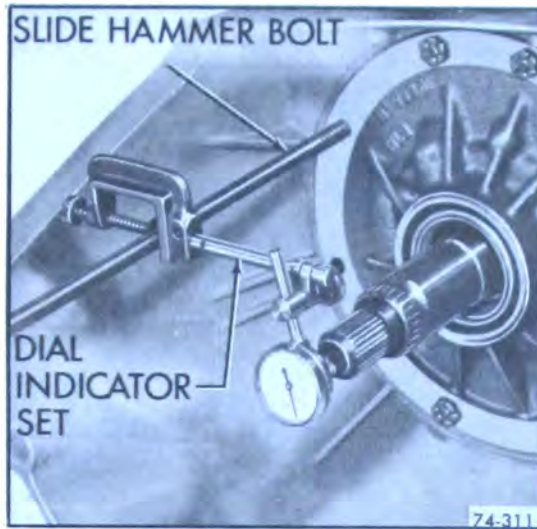

Figure 74-311
3. Attach slide hammer bolt to threaded hole in oil pump. See Figure 74-311. With flat of hand on end of input shaft move shaft rearward. Install dial indicator set J-8001 on rod and "O" dial indicator on end of input shaft. Push on end of output shaft to move shaft forward, the reading obtained will be the clearance. There are three selective thrust